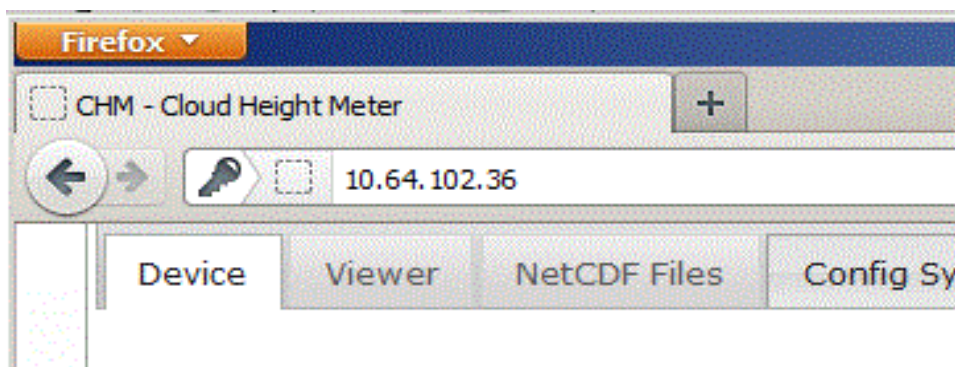

Fig. 11: Firefox browser to access to a CHM 15k Nimbus instrument (here with a fixed address).
The service address (1) can not be modified by the user. It is always available and can be used for direct connections between a laptop and the CHM 15k Nimbus. The address (3) can be entered in a web browser window (Fig. 11) to communicate with the instrument. Fig. 15 shows the "Config Network" tab in the Firefox web browser. Superuser authorization is required to change the user IP address (3).